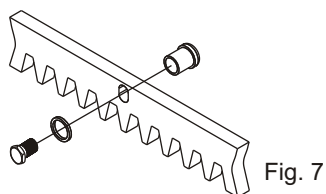

Fig. 7
5.2. Fit the bolts to each section of rack using the provided blocking screw. Make sure the bolts are placed in the upper part of the holes (See Fig. 7) ;